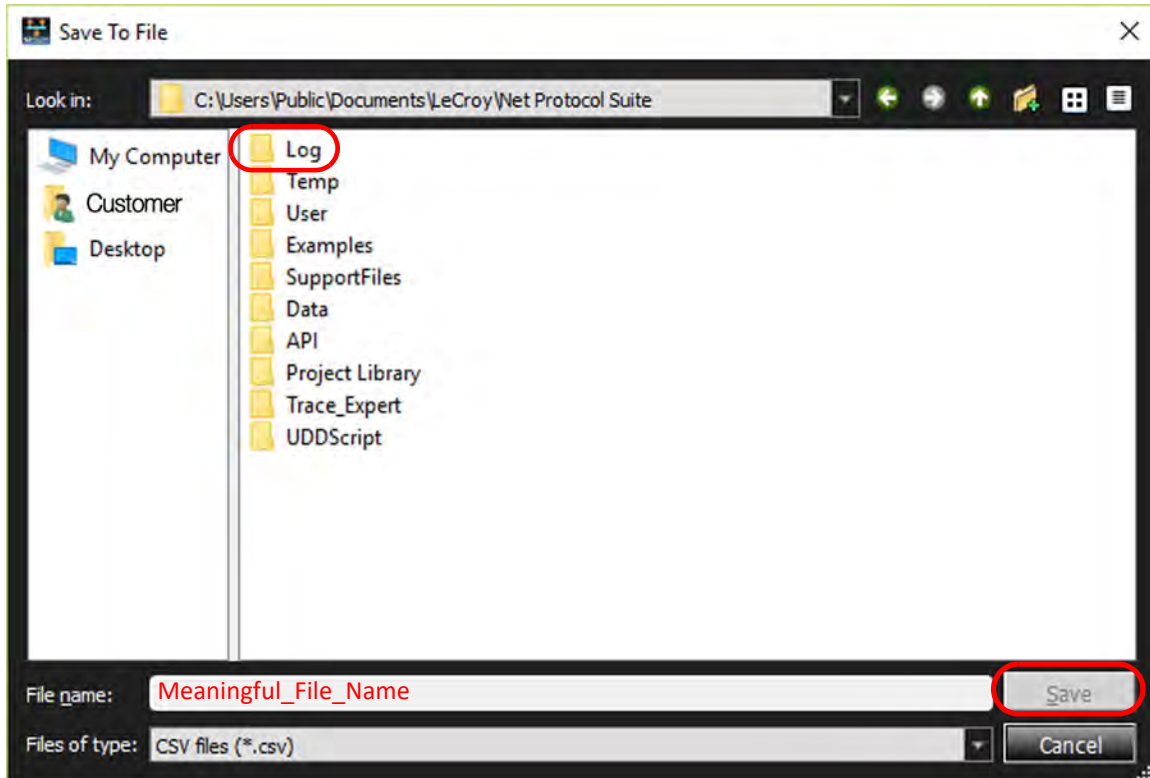

Figure 4.40: Save to File Window – Path to Log Folder
- Click the **Navigate Button** . The Log Settings window appears (Figure 4.40).